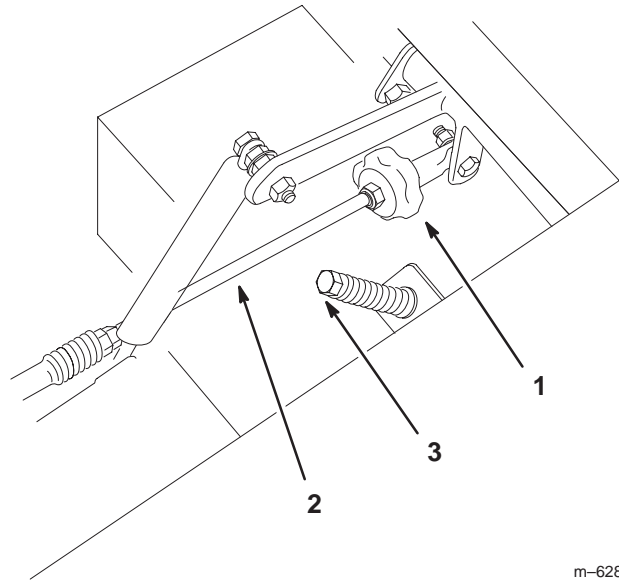

Figure 49
2. Adjust pump rod length by rotating the knob, in the appropriate direction, until the wheel is still or slightly creeping in reverse (Fig. 49).